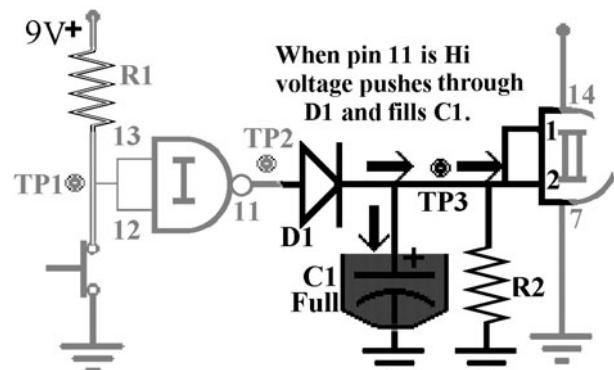

Figure L21-2
- Measure the voltage at TP3 with the push button held closed and record your results. Figure L21-2 shows that as long as the NAND gate's output at pin 11 is high, the voltage and current push through D1 and do two things. They influence the inputs of the second NAND gate and fill the capacitor.